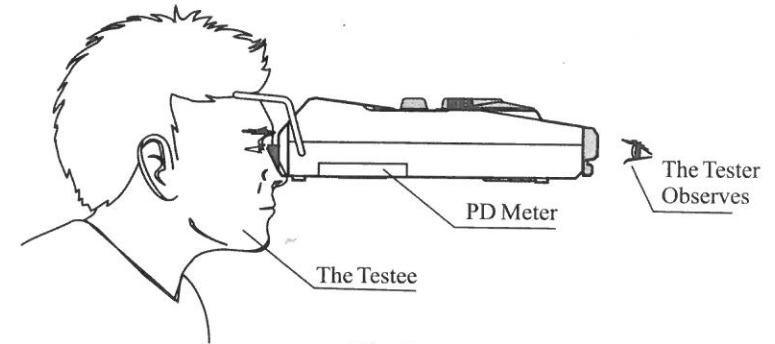

Fig.6
**4.3.2** Put the forehead bearer lightly on the testees's forehead, and nose bearer lightly on testee's nose bridge, then keep the device in a horizontal state(as shown in Fig.6).